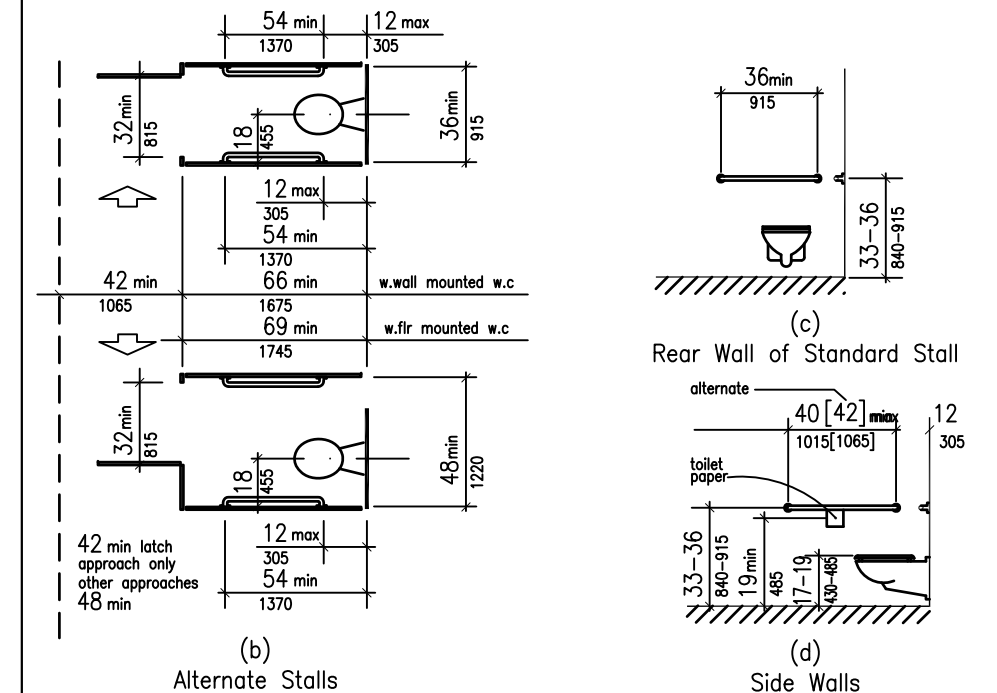

Fig 31
a. LAVATORIES SHALL BE MOUNTED WITH A CLEARANCE OF 29" FROM THE FLOOR TO THE BOTTOM OF THE APRON, KNEE AND TOE CLEARANCE TO COMPLY WITH FIG. 31.